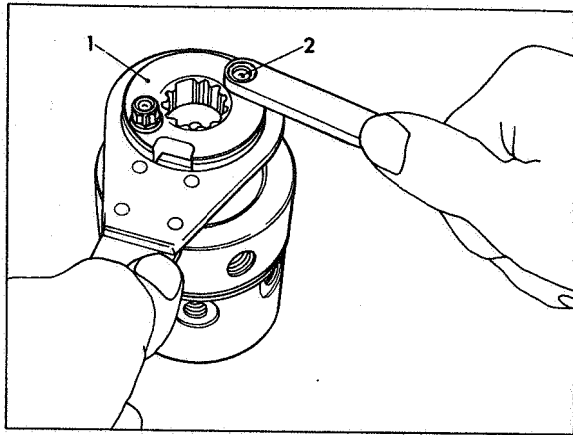

Fig 7 Loosening drive plate screws
Place the head and rotor assembly on the bench. As illustrated in Fig 7 hold drive plate (1) with Tool Part No 7144-744 and loosen drive plate screws (2) with Tool Part No 7144-511A.